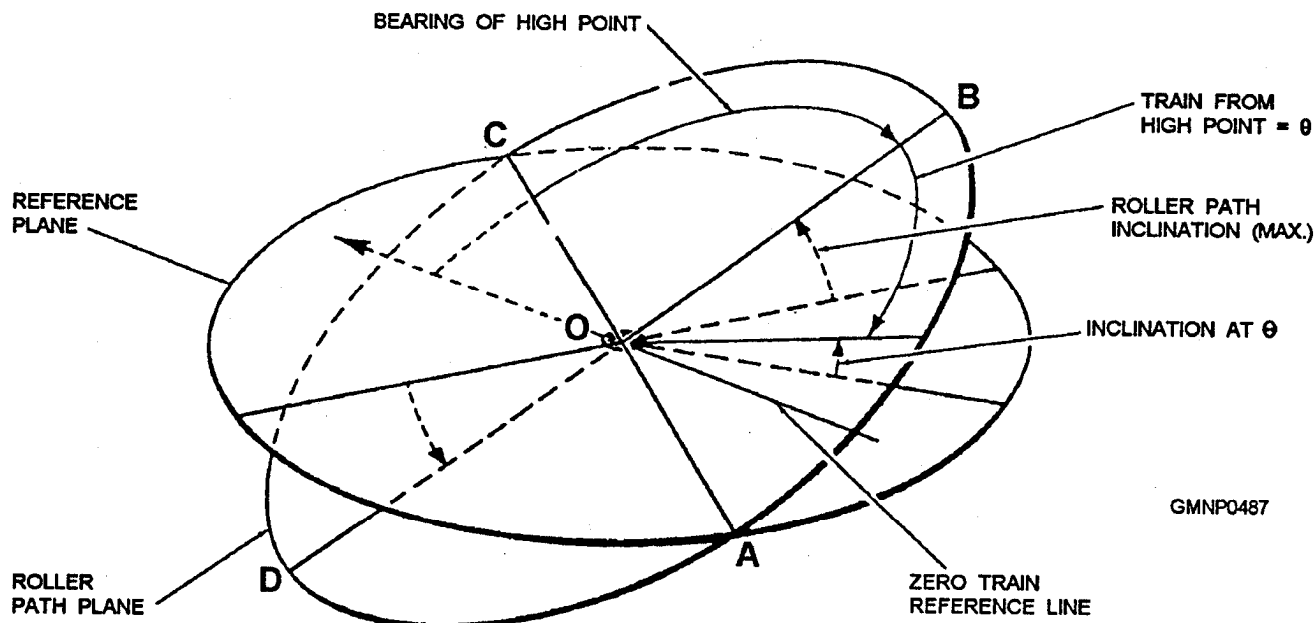

Figure 11-1.—Variation of roller path inclination with bearing.
**INCLINATION VERIFICATION.**— Inclination verification consists of the measurement of the tilt between equipment RPPs of the equipment in the combat system and the reference plane. Figure 11-1 shows a plane tilted with respect to the reference plane. Note that the inclination varies with the bearing. In the direction of line OA, the inclination is zero. Inclination increases gradually in the direction of line OB until it reaches maximum positive angle at 90° from line OA. Point B is the bearing of the high point (Bhp). Point D is a negative angle, proportionate to the positive angle of point B. All the references to roller path alignment are expressed in terms of the bearing and inclination of the high point. The tilt of the RPP is determined by using clinometers or similar devices.